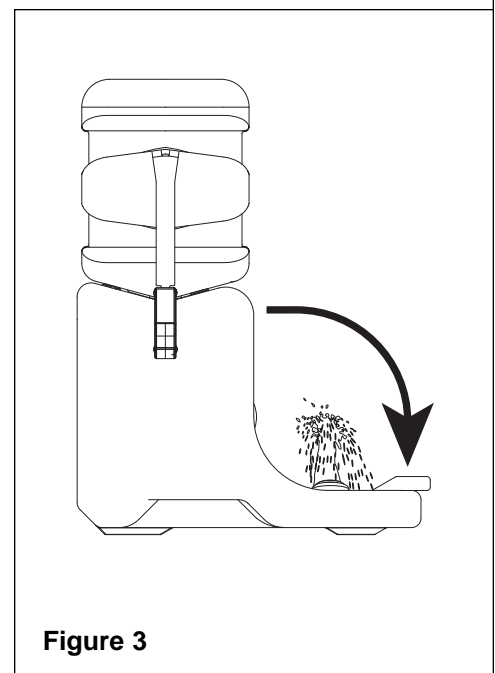

Figure 3
1. After completing installation, test the eye wash station for proper operation by pulling down the tray (see Figure 3). Visually inspect the eye wash unit weekly for cleanliness and proper solution level (per ANSI Standard Z358.1-2004). When the water level drops below the 15-minute fill line, the tank must be emptied and then refilled. To refill the eye wash tank, follow the procedures outlined in Step 2 found on page 4.